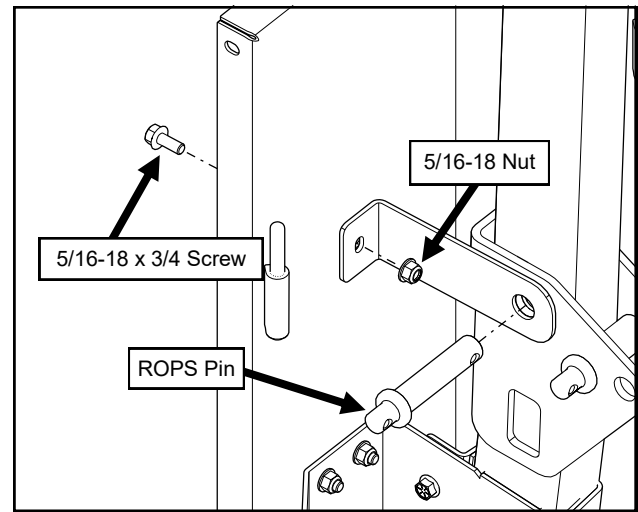

Fig. 4.2 (Loosely Secure ROPS Bracket)
- 4.2** Remove the left ROPS pin and remove the foam washer. The foam washer will not be re-used. See Figure 4.2.
- 4.3** Loosely secure the bracket to the rear leg. See Figure 4.2. Do not tighten hardware.